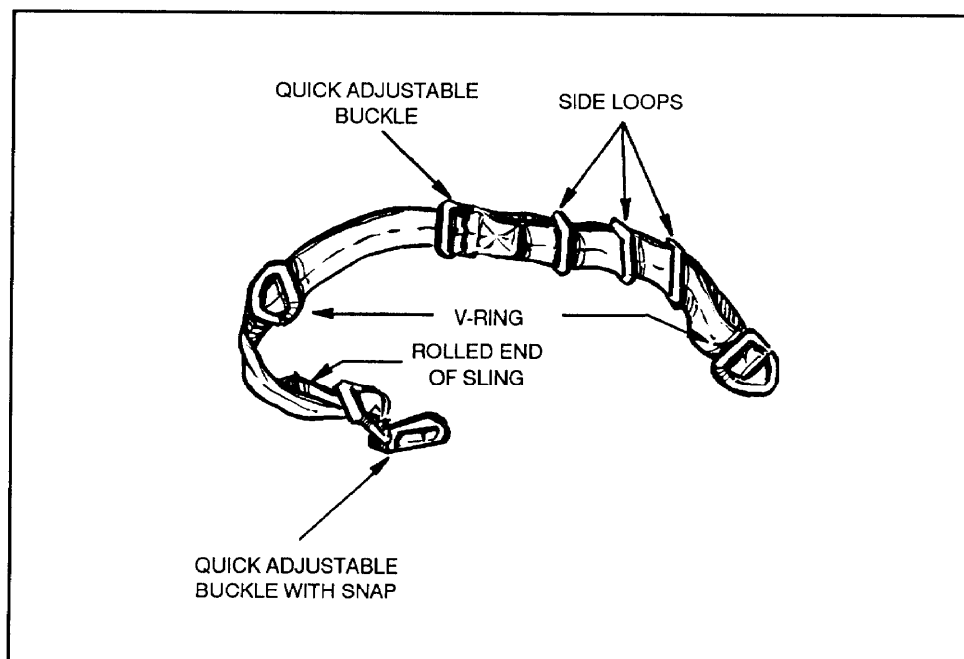
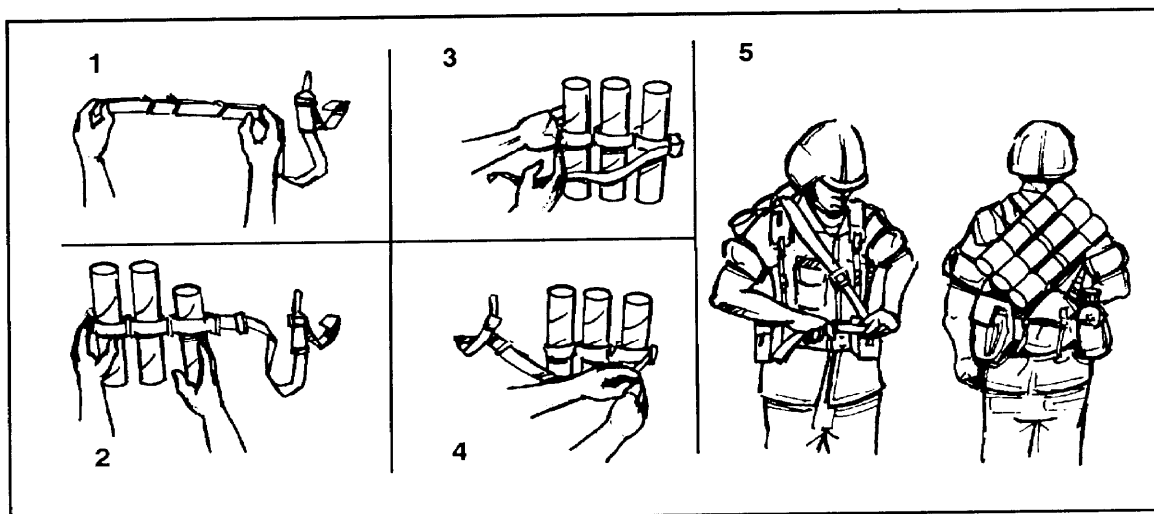

Figure 8-5. Universal load-carrying sling.
Figure 8-6. Carrying ammunition containers.
(3) The universal load-carrying sling (Figure 8-5, see page 8-20) can be used to carry ammunition or the mortar. The sling is adjustable and can be shifted to the position needed to attach various loads. One sling can be used alone, or two slings can be combined, depending on the load. Not more than 35 pounds per sling should be carried. A method for using the sling to carry the 60-mm mortar ammunition containers is shown in Figure 8-6, see page 8-21.